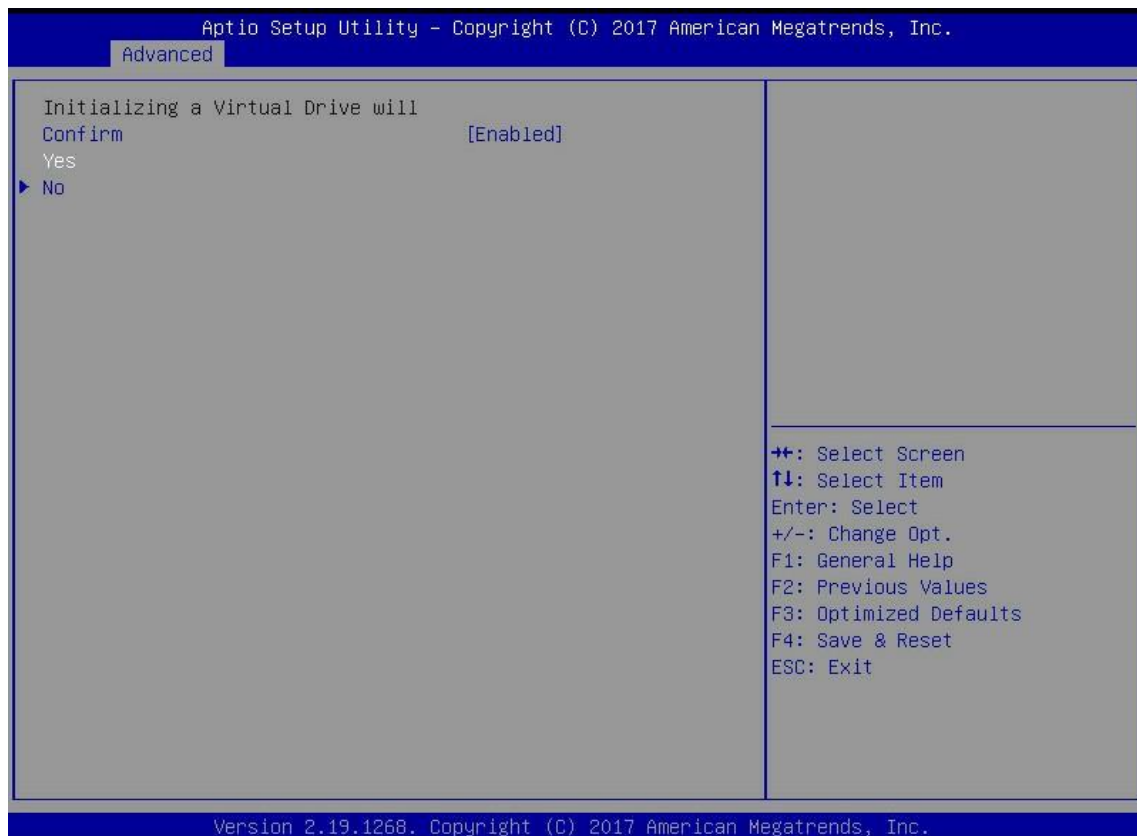

Figure 6-45
e) Enter the interface shown in figure 6-45, select confirm to enable it, select Yes, and press enter.